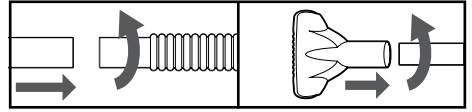

FIGURE 9
11. Attach the extension wands to the accessory end of the hose. Twist slightly to tighten the connection. **(FIGURE 9)**
12. Attach one of the cleaning accessories (depending on your cleaning requirements) on the extension wands. Twist slightly to tighten the connection. **(FIGURE 9)**